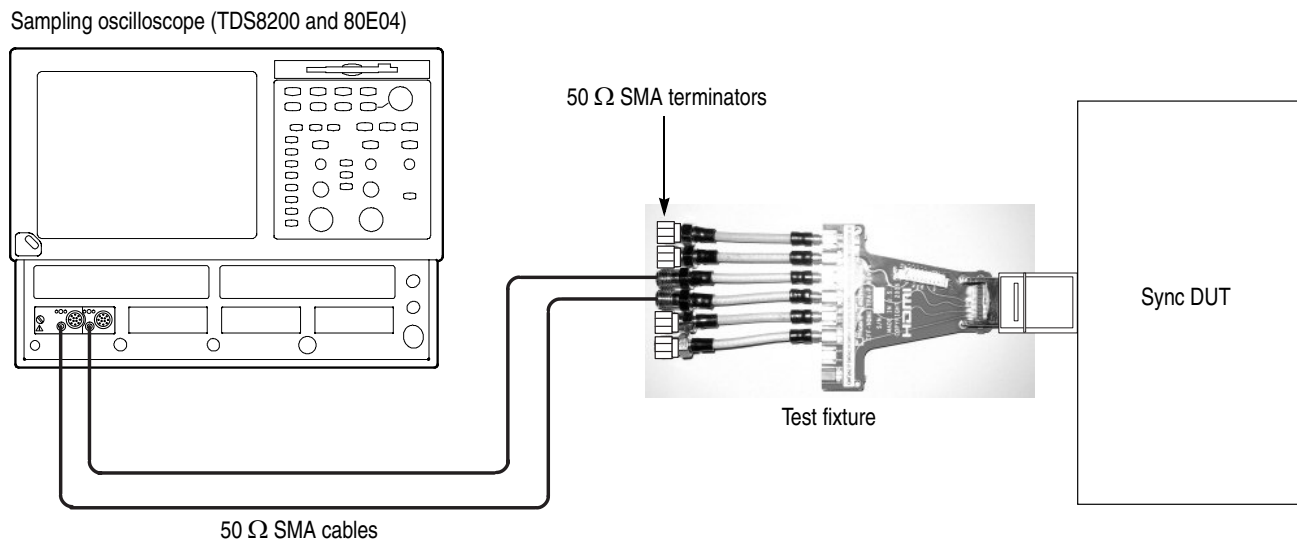

Figure 9: Connecting a sync DUT to the test fixture
9. Connect the test fixture to the HDMI connector on a device under test (DUT) (see Figure 9).